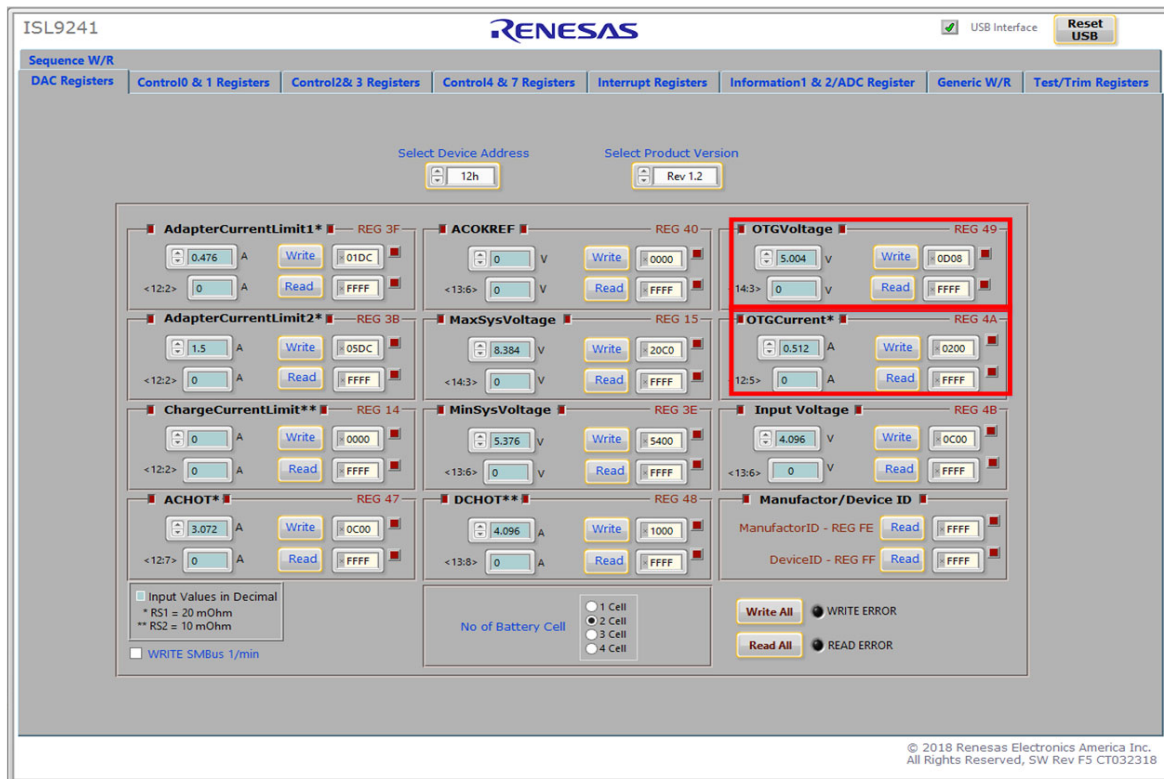

Figure 9. OTGVoltage and OTGCurrent Settings in GUI
- Open the ISL9241 GUI. **OTGVoltage** is the voltage value for the load side, as shown in Figure 9, and **OTGCurrent** is the OTG output current limit at the load side. You can set these values as needed within the output limit range. Refer to the ISL9241 datasheet for the limit ranges.